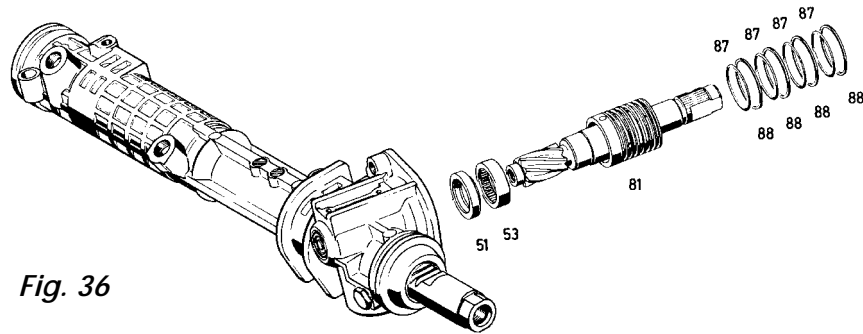

Fig. 36
Using tool [17], press the shaft seal (51) into the housing (1) until it is in perfect contact with the housing (**Fig. 36**).